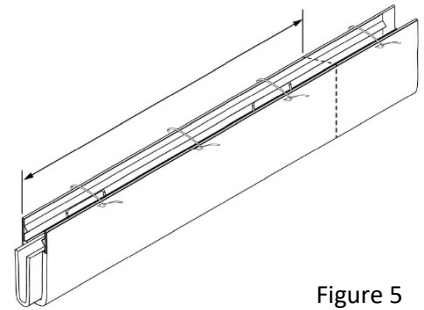

Figure 5
7. If field conditions require a stick to be cut short, measure the required length from male end and cut the appropriate length, *figure 5*.
8. If the removed section of fire barrier contains a spring, be sure to remove that spring from the dropped section, and re-install to provided slots in blanket that will be installed, *figure 5*.